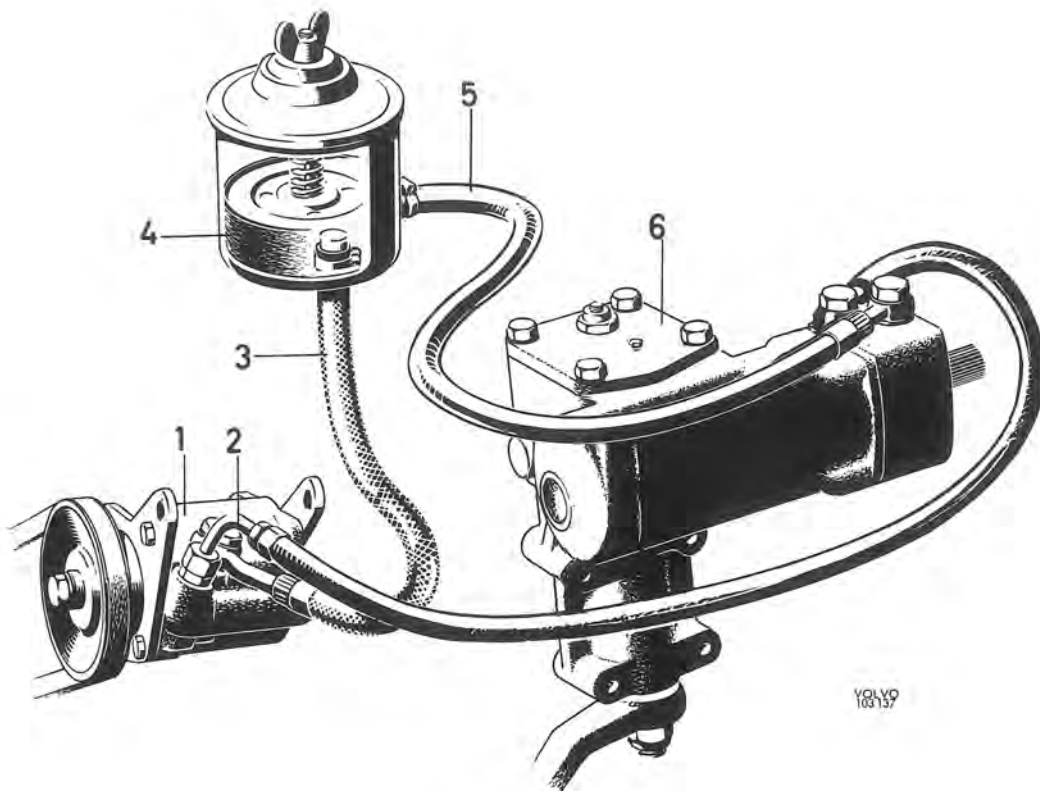
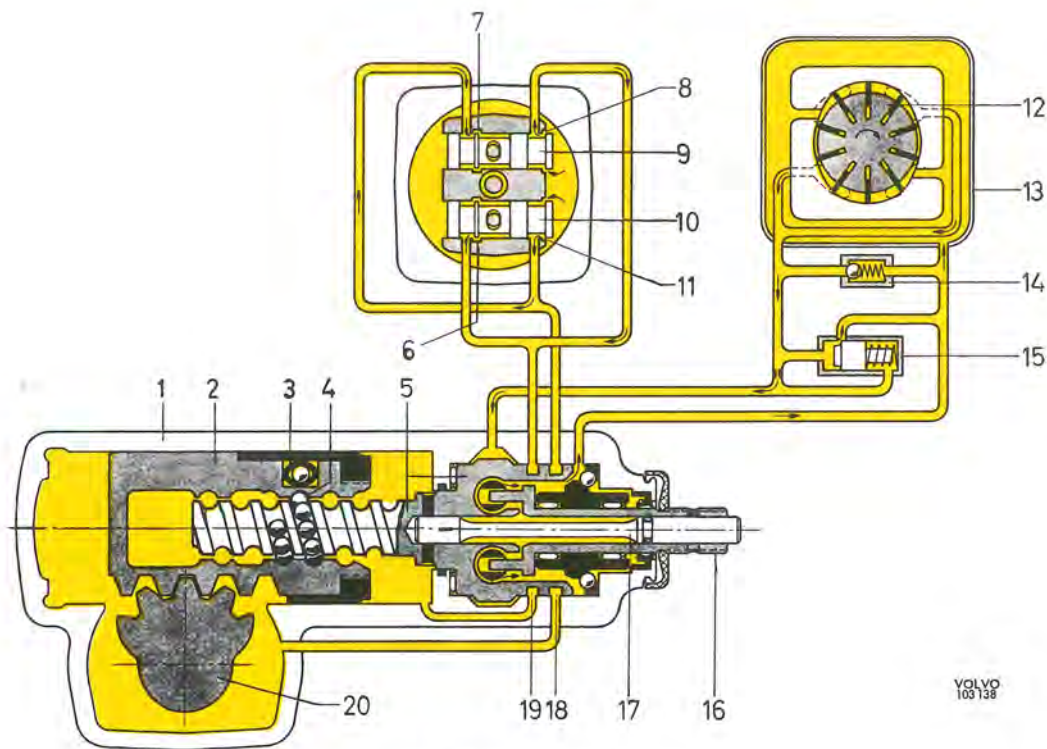

Fig. 6-37. Power steering
Fig. 6-39. Function, neutral position
This vehicle is fitted with the ZF recirculating ball and nut type power steering. The main components of the power steering system are the steering gear, power pump and oil container with filter. These are connected to the various oil lines, see Fig. 6-37.
The steering gear is of the worm and roller type. In addition to the mechanical section, the power cylinder and control valves are built into the steering housing. The lower part of the steering housing (1, Fig. 6-39) is in the shape of a cylinder in which the piston (2) is fitted. On the one side the piston is in the form of a rack gear which meshes with the tooth segment of the sector shaft (20).
The construction of the steering gear differs with regard to a left-hand steered and a right-hand steered vehicle in the matter of the location of the sector shaft and the worm thread. Fig. 6-37 shows the steering gear for left-hand steering while Figs. 6-39—6-41 shows that for right-hand steering. The following description of the function applies to both.
The location of the valve pistons as well as that of the oil flow are shown schematically in Figs. 6-39, 6-40 and 6-41. In order to illustrate more clearly how
Oil is conveyed under pressure from the pump into an annular chamber round the valve housing (the large circle in the cross-section). In the neutral position (Fig. 6-39) the valve pistons (9 and 10) are so adjusted that oil can pass the intake ports (8 and 11) and flow on to the radial grooves (18 and 19) in the valve housing. From here the oil is led partly to both sides of the piston (2) through the radial grooves (18 and 19), and partly — as long as the valves are in the neutral position — to both the return grooves (6 and 7) at the valve pistons. From the return grooves oil flows through the return channel back to the container.